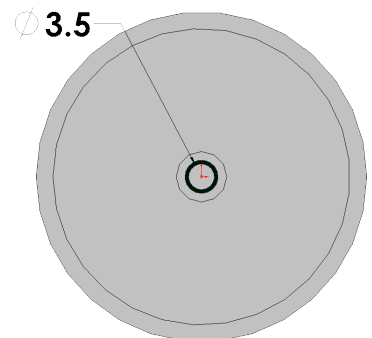

Fig. 10
Step 3. Click **Circle**  (S) on the Sketch toolbar.
Step 4. Draw a circle for the hole starting at the Origin , **Fig. 10**.
Step 5. Click **Smart Dimension**  (S) on the Sketch toolbar.
Step 6. Dimension the axle hole **3.5** as shown in **Fig. 10**.